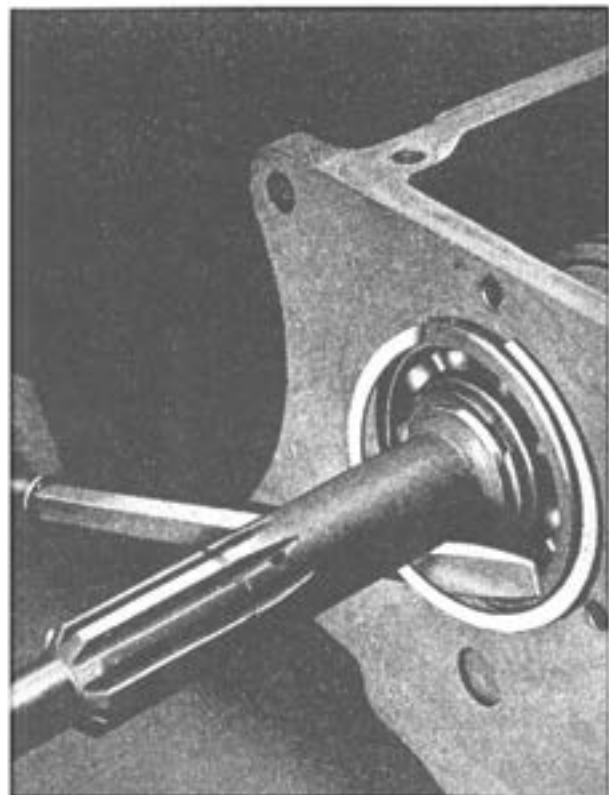

FIG. 2—REMOVING BEARING SNAP RING
7. Disconnect the clutch release cable at bell crank and remove; also, remove clutch release lever No. 10, Fig. 2, "Clutch Section" through the inspection hole in the flywheel bell housing.
14. Remove snap rings from main drive gear shaft and bearing, Fig. 2 and 3 and remove bearing from shaft.